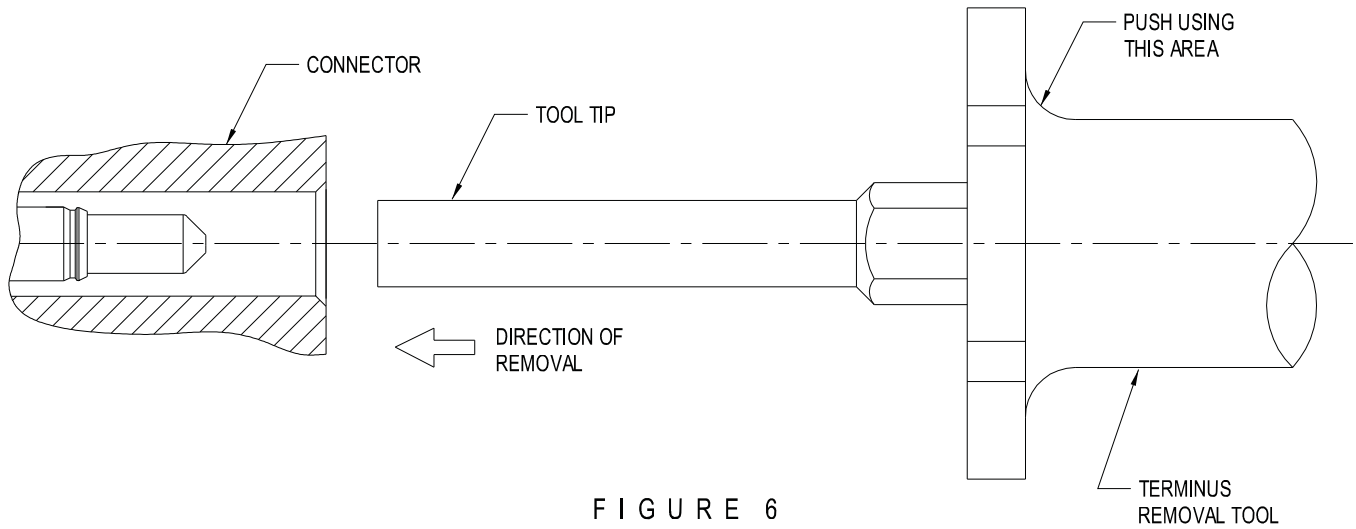

FIGURE 6
10.0 TERMINUS REMOVAL, SEE FIGURE 6.